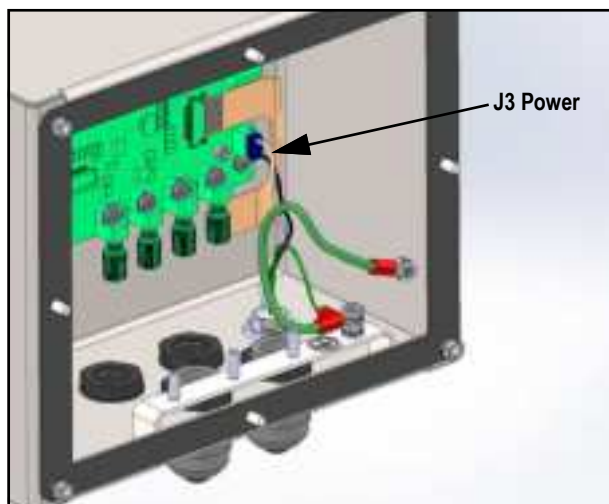

Figure 2-11. Connect DC Wiring
NOTE: The DC power cable should be attached to connector J4 (Figure 2-11 on page 25).
4. Run the other two wires up the side of the indicator and connect the three pin plug (PN 15888) to the power supply board as shown in Figure 2-11 and Table 2-6 on page 24.